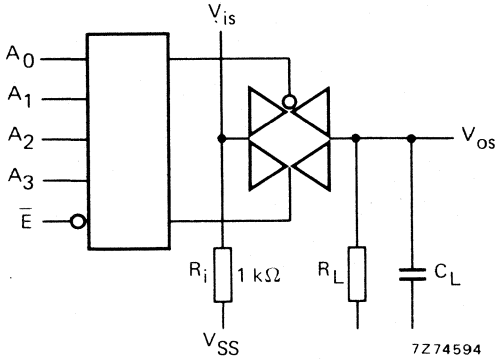

Fig. 2
- $R_L = 10\text{ k}\Omega$  to  $V_{SS}$ ;  $C_L = 50\text{ pF}$  to  $V_{SS}$ ;  $\bar{E}$  at  $V_{SS}$ ;  $V_{is}$  is  $V_{DD}$  (square-wave); see Fig. 2.
- $R_L = 10\text{ k}\Omega$  to  $V_{SS}$ ;  $C_L = 50\text{ pF}$  to  $V_{SS}$ ;  $\bar{E}$  at  $V_{SS}$ ;  $A_n$  is  $V_{DD}$  (square-wave); see Fig. 2.
$V_{is}$  at  $V_{SS}$  and  $R_L$  at  $V_{DD}$  for  $t_{PLZ}$  and  $t_{PZL}$ ; see Fig. 2.
- $R_L = 10\text{ k}\Omega$  to  $V_{SS}$ ;  $C_L = 15\text{ pF}$  to  $V_{SS}$ ;  $\bar{E}$  or  $A_n$  is  $V_{DD}$  (square-wave); crosstalk is  $V_{os}$  (peak value); see Fig. 2.